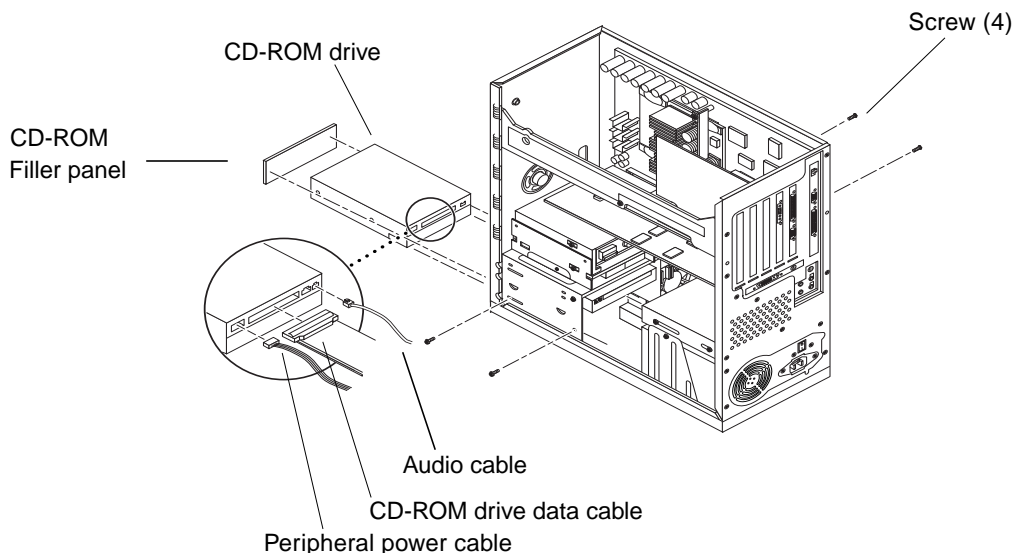

FIGURE 9 Installing or Replacing a CD-ROM Drive (Ultra 10)
- a. Remove the following from the rear of the CD-ROM drive (FIGURE 9):